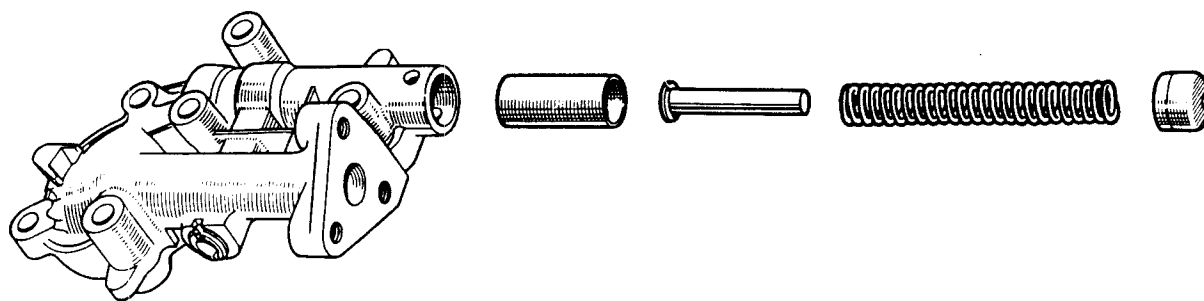

Fig.1.38 Later type oil pump components
- 6 Remove the split pin from the relief valve orifice and withdraw the cup, spring, guide and piston, Fig.1.38.